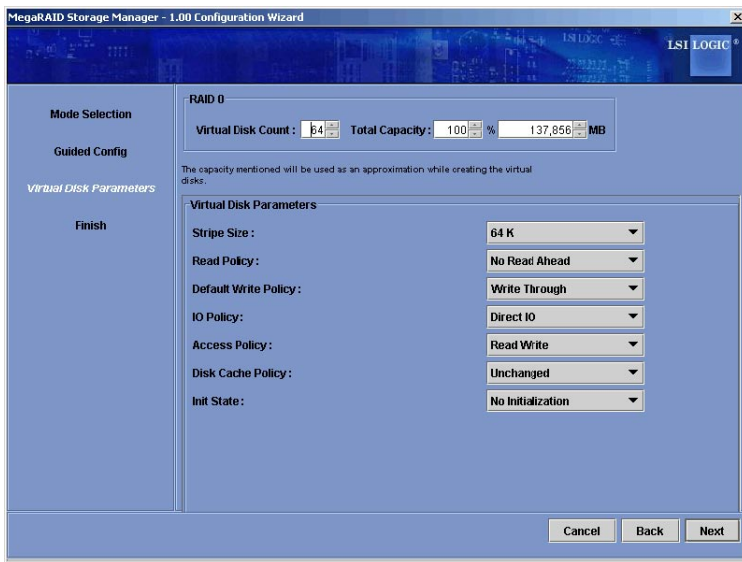

Figure 6-4: Second Guided Configuration Screen
4. Click Next to continue to the next window, as shown in Figure 6.4.